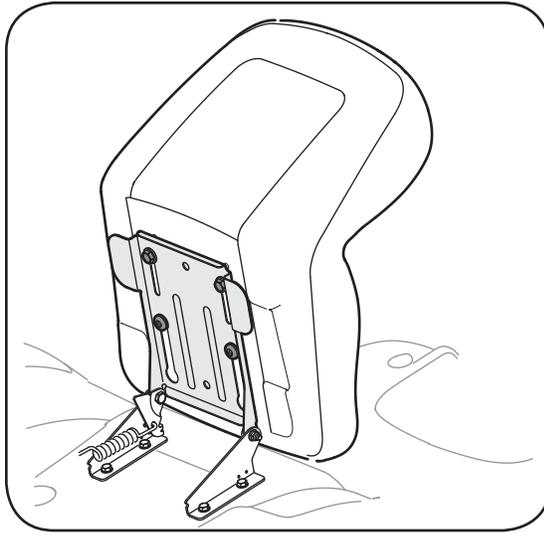
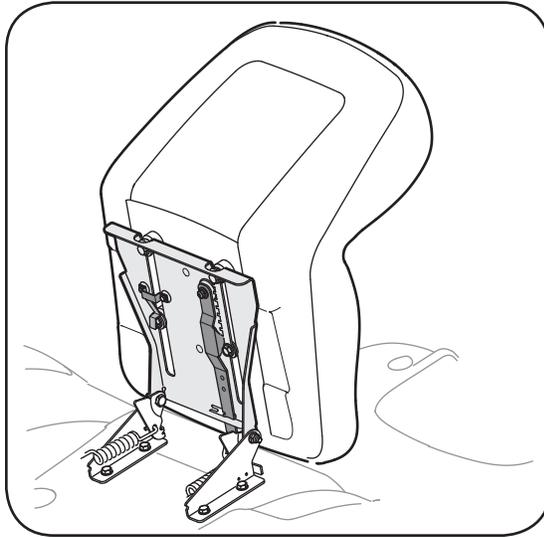
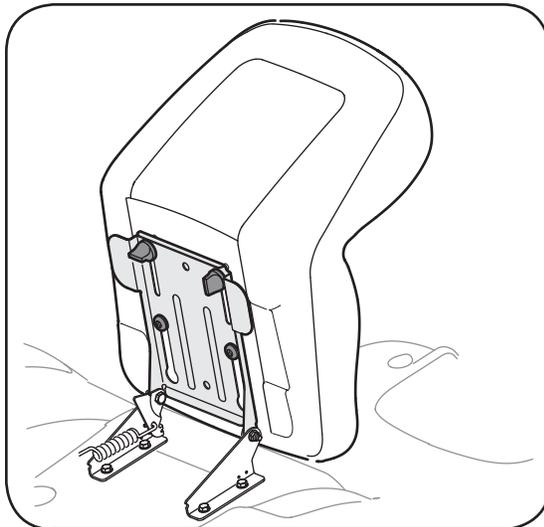

Figure 3-4
Figure 3-5
Figure 3-6
If the seat for your tractor did not come attached, refer to Figure 3-4, Figure 3-5, and Figure 3-6 to identify your tractor's seat style and follow the applicable instructions below to attach it.
1. Position the shoulder screws (found on the base of the seat) inside the slot openings in the seat pivot bracket. Figure 3-4.
3. Select desired position for the seat, and secure with the two hex screws removed earlier. See Figure 3-4.
NOTE: If your seat was shipped mounted backwards on the seat pivot bracket, pull out the tab found on the seat stop and hold it open while sliding the seat off the seat pivot bracket. See Figure 3-5.
2. Slide seat in until front seat spacer engages the seat stop. See Figure 3-5.
1. Position the shoulder screws (found on the base of the seat) inside the slot openings in the seat pivot bracket. Figure 3-6.
3. Select desired position for the seat, and secure with the two knobs removed earlier. See Figure 3-6.